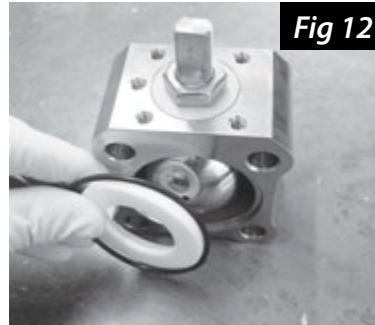

Fig 12
7. Remove and discard the Teflon® seats and body seal o-rings (Fig 12).